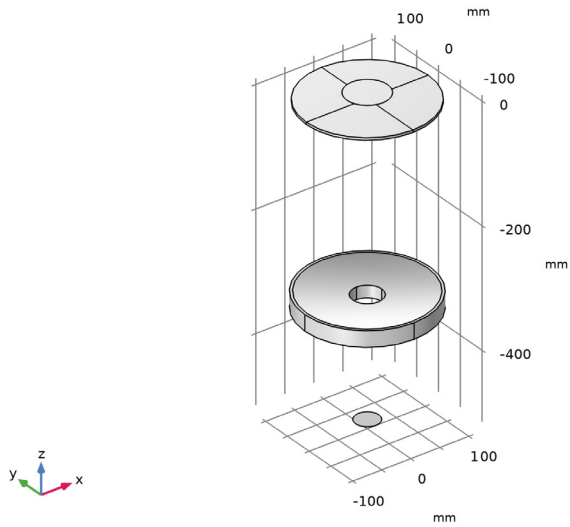

Figure 2: The Schmidt–Cassegrain telescope geometry sequence.
The resulting Schmidt–Cassegrain telescope geometry sequence is shown in Figure 2. Detailed instructions for creating the geometry can be found in Appendix — Geometry Instructions.
- 8 Click the  **Orthographic Projection** button in the **Graphics** toolbar. Compare the resulting geometry to Figure 2.